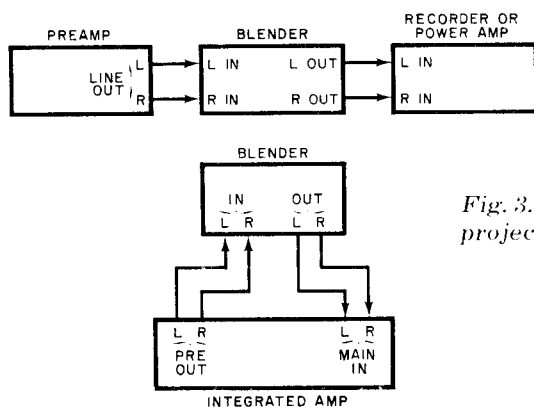

Fig. 3. Connecting the project to your system.
**Use.** The blender should be connected to your audio system as shown in Fig. 3 by means of shielded patch cords terminated with suitable connectors. As mentioned earlier, it can be used to make listening through stereo headphones more enjoyable. The project also allows home recordists to introduce interesting special effects when taping program material. Imaginative users will no doubt find other applications. ◇